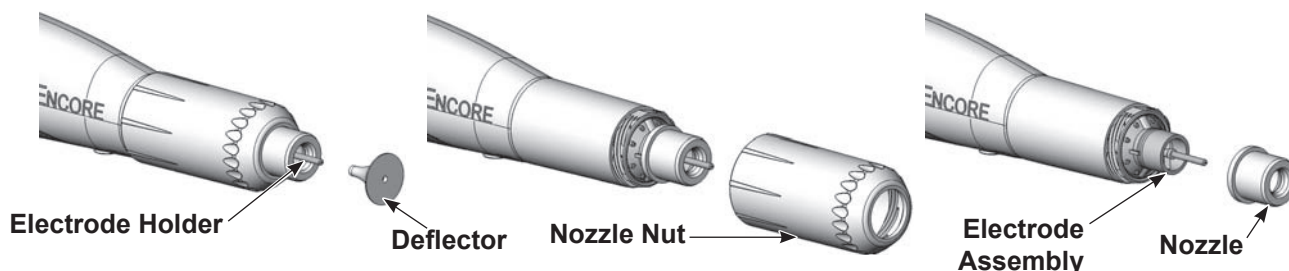

Figure 4-7 Changing a Conical Nozzle
2. See Figure 4-7. Gently pull the deflector off the electrode holder. If only changing the deflector, install the new one on the electrode holder, being careful not to bend the electrode wire.